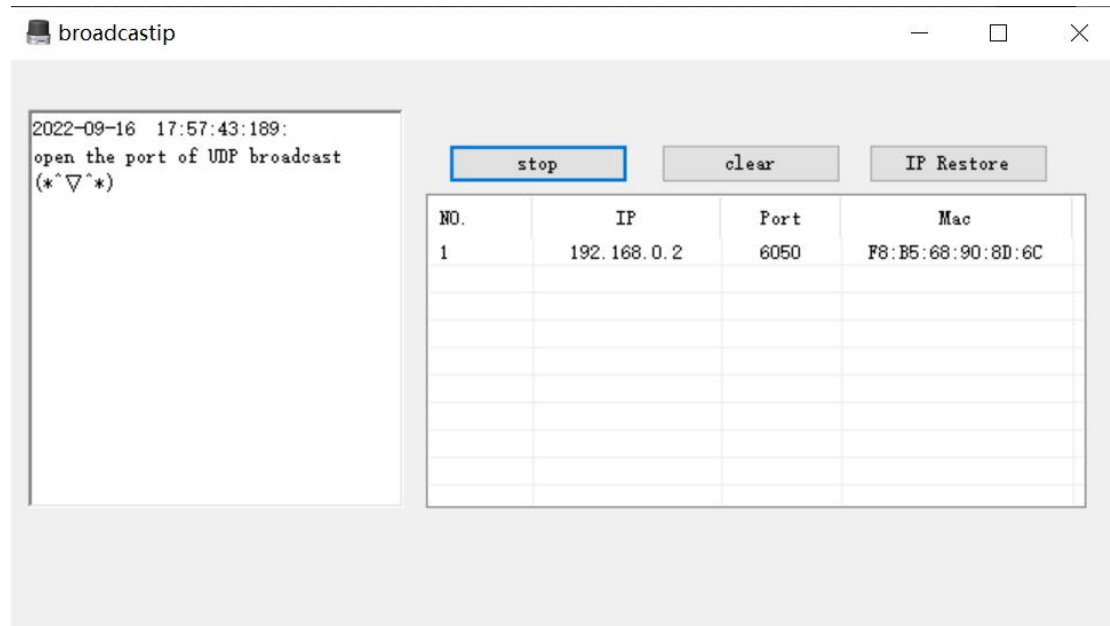

Figure 4.3 Broadcast query IP interface
- 3) Click "Start Broadcast", as shown in Figure 4.3 below. When the IP and port number are displayed on the right side, write down the LiDAR IP and close the window.